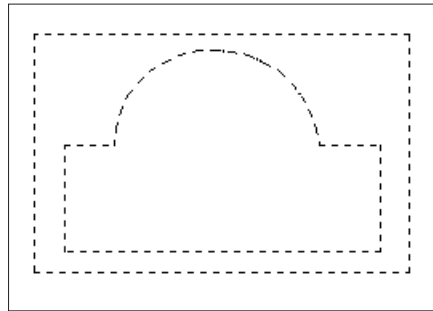

Figure 1
- 2 Select the inner and outer objects using the Pick tool on the Drawing toolbar, (you may select more than one object, using any of the multi-select options), all the selected object will go dotted as in Figure 1.